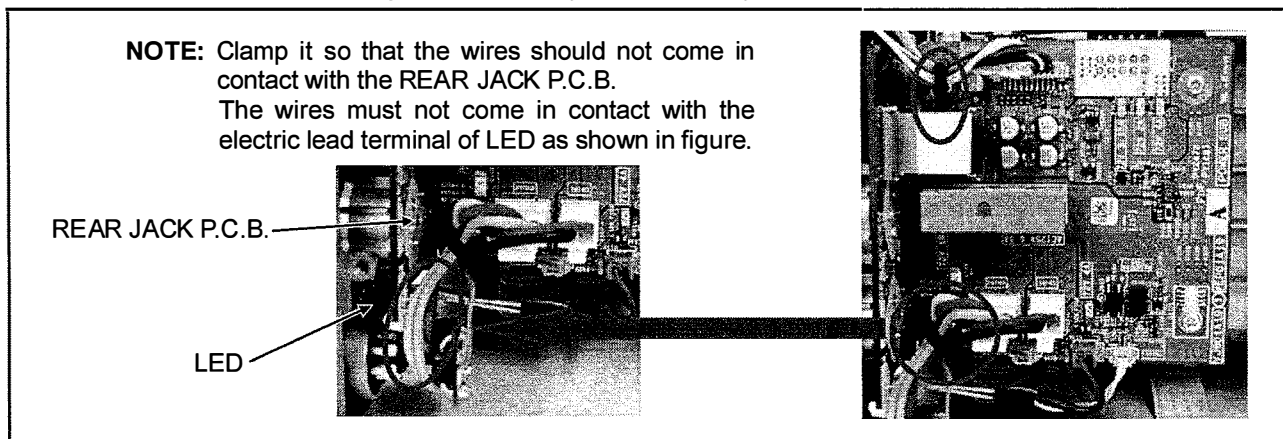

Figure 7-8
3. Wired the wires as shown in figure 7-8 and they are bundled by the clumper.